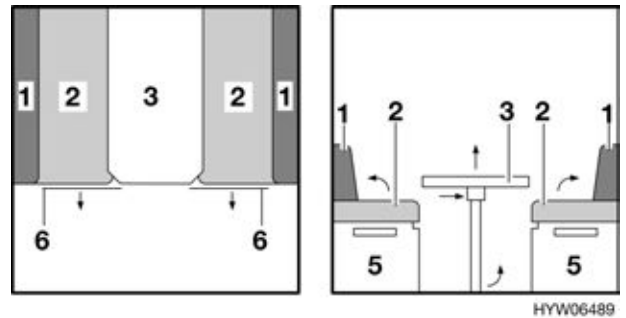

Fig. 75 Prior to conversion
- Slightly lift the front of the table-top (Fig. 75,3).
- Lay the two seat cushions in position (Fig. 75,2).
- Lay the right back cushion (Fig. 75,1) aside.
- ▷ Depending on the model an enclosed additional cushion must be used instead of the back cushion (Fig. 75,1).